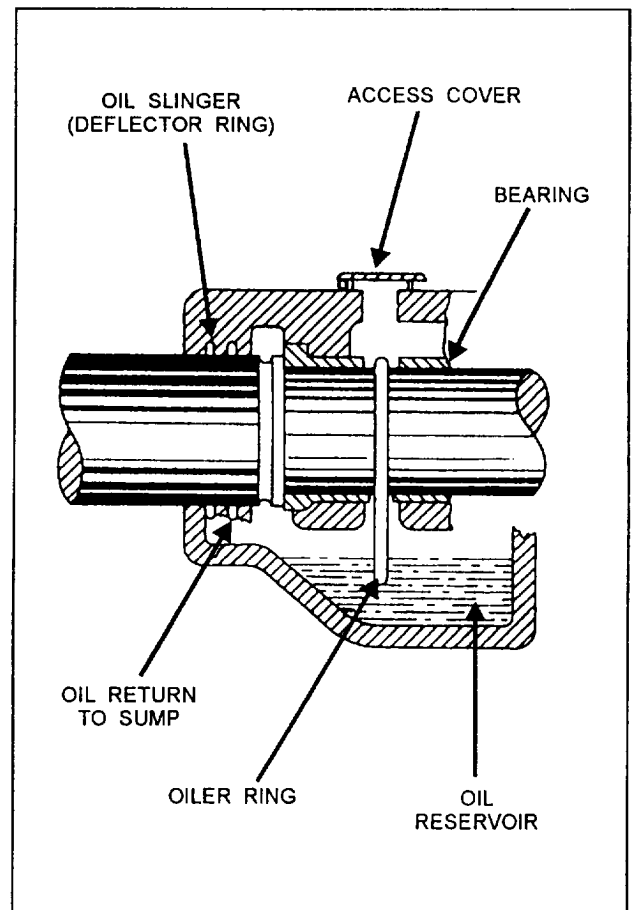

Figure 3-18.—Diagram of an oil-ring lubricated bearing.
**Oil Rings and Bearing Surfaces.**— An opening is provided in the top of the bearing for you to check the condition of the oil rings and bearing surfaces (fig. 3-18). Periodic inspections are necessary to make certain that the oil ring is rotating freely when the machine is running and is not sticking. With the machine stopped, inspect the bearing surfaces for any signs of pitting or scoring.